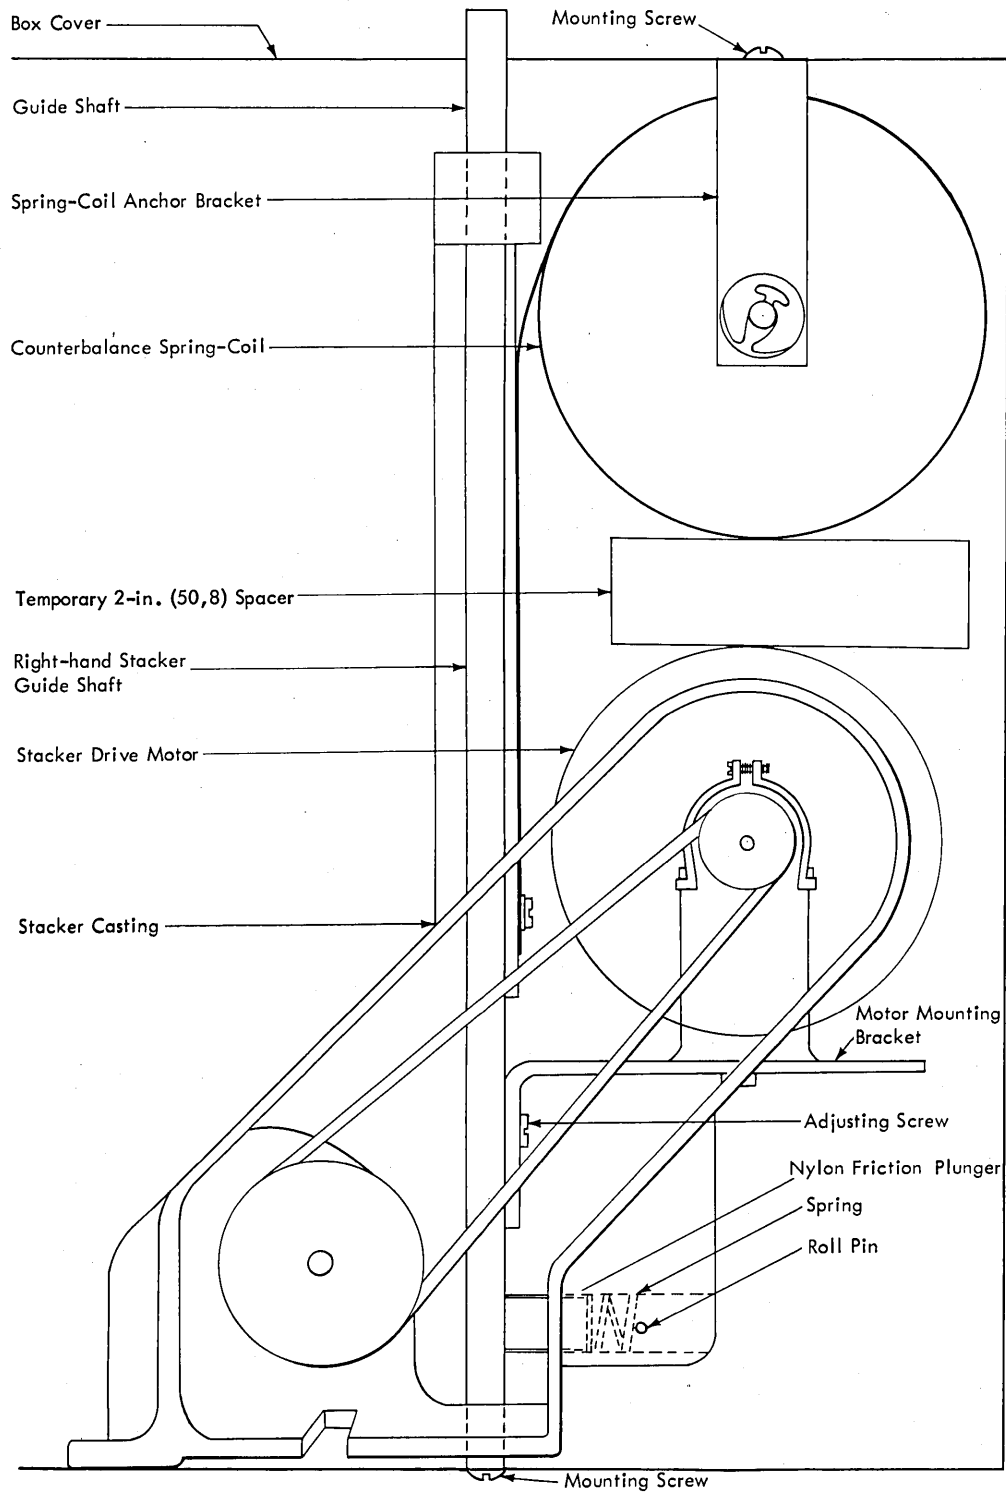

Figure 4-2. Stacker Drive-Belt Replacement
3. Remove the screw and lockwasher that secures the bottom of the left-hand guide shaft to the stacker gate and remove the guide shaft (Figure 4-2).
On machines using a V-belt, loosen the screws holding the motor-mounting bracket, and move the bracket down in the slotted holes. These screws are accessible from the back under the mounting bracket (Figure 4-2).
4. Place a sturdy 2 in. (50, 8 mm) spacer (such as a block of wood, a wrapped deck of cards, or a small box) on top of the drive motor, and raise the stacker. This spacer (Figure 4-2) facilitates removal and replacement of the stacker balance spring assembly by keeping the spring extended (uncoiled) for a convenient distance. It also separates the stacker spring coil from the drive motor and retains this separation when the stacker is removed.